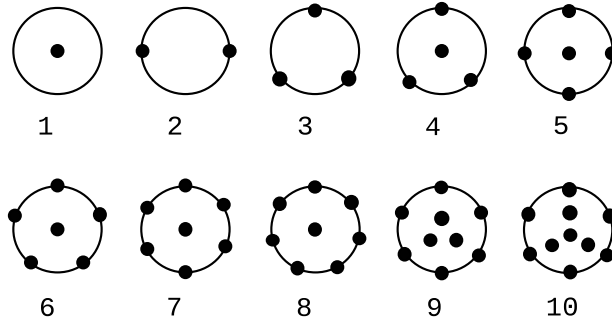

Figure 3.11: Predefined configurations for 1 through 10 sensor rays
- `numberOfRays`: number of rays cast by the sensor. The number of rays must be equal to, or greater than 1 for "infra-red" and "sonar" sensors. `numberOfRays` must be exactly 1 for "laser" sensors. If this number is larger than 1, then several rays are used and the sensor measurement value is computed from the weighted average of the individual rays' responses. By using multiple rays, a more accurate model of the physical infra-red or ultrasound sensor can be obtained. The sensor rays are distributed inside 3D-cones whose opening angles can be tuned through the `aperture` field. See figure 3.11 for the ray distributions from one to ten rays. The spacial distribution of the rays is as much as possible uniform and has a left/right symmetry. There is no upper limit on the number of rays; however, Webots' performance drops as the number of rays increases.